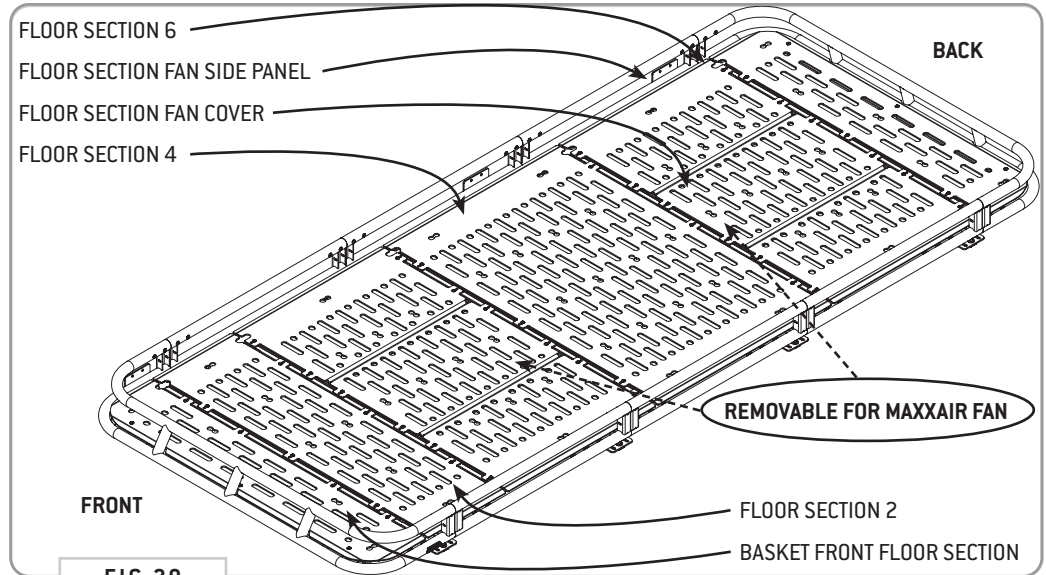
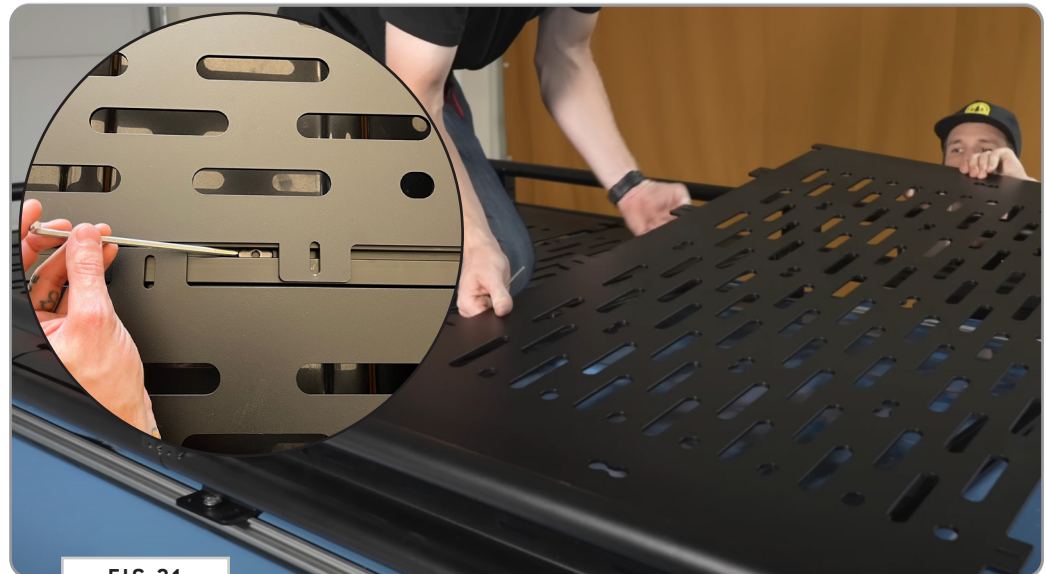

FIG 20
FIG 21
**8.1 Install Floor Panels:** Begin to layout your **Decking Panels** along the locations shown in **FIG 20**. Adjust the **T-Nuts** as necessary to line up with the available pill slots of the **Decking Panels** (**FIG 21**).